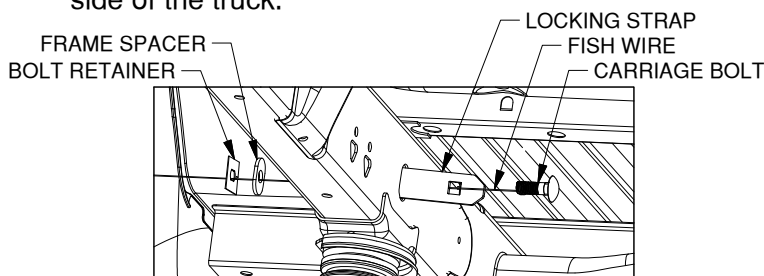

Figure C1: View looking at driver side frame.
- 1. Install carriage bolts.** Locate the oval hole on the outside of the frame directly over the center line of the axle. To begin, place a 1/2" x 1-1/2" carriage bolt through a locking strap. Next, thread a fish wire onto the end of the carriage bolt. From the inside of the frame pass the fish wire through the oval hole located earlier. While holding the fish wire on the outside of the frame push the locking strap and carriage bolt into the frame, see Figure C1. Continue pulling on the fish wire until the threaded portion of the bolt is sticking out of the frame. Turn the carriage bolt until the square shoulder engages the square hole of strap. Before removing the fish wire, thread the oval frame spacer on the carriage bolt and into the oval slot. Remove the fish wire and thread a bolt retainer on the carriage bolt to hold the bolt in plate. Repeat this step on the other side of the truck.